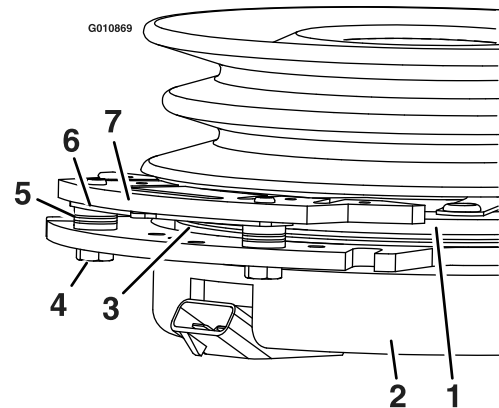

**Figure 63**
3. Remove the dust cap from caster and tighten lock nut (Figure 63).
4. Tighten the locknut until the spring washers are flat and then back off a 1/4 turn to properly set the pre-load on the bearings (Figure 63).
**Important:** Make sure the spring washers are installed correctly as shown in Figure 63.
5. Install the dust cap (Figure 63).